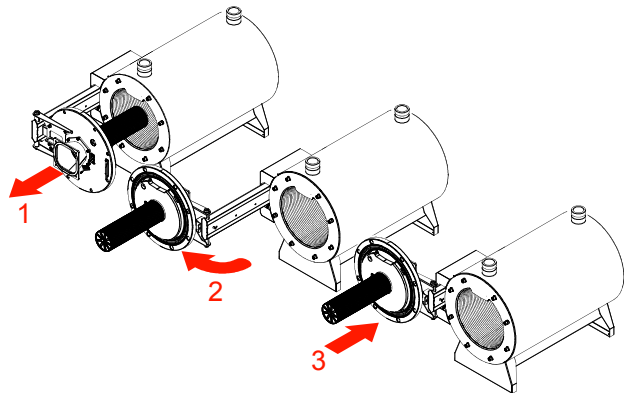

Figure 28: Burner Door Opening
- d. This unit is equipped with a sliding mechanism shown in Figure 28. Position (1) the burner assembly slides out of the combustion chamber, (2) rotate away from the combustion chamber and (3) sliding back to allow full access to the combustion chamber for inspection and service.